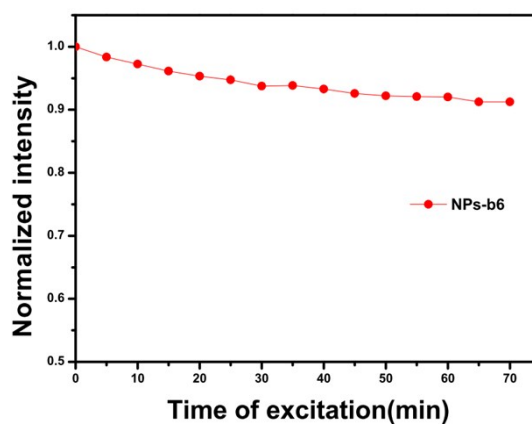

Figure S8. The photobleaching of NPS-b6.
12. The photobleaching result of NPs-b6 as shown in Figure S8.